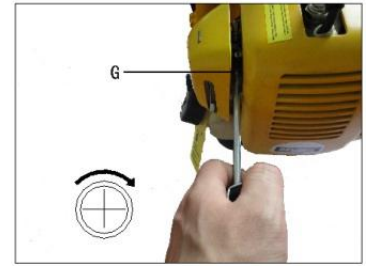

Fig.15
1. Locate the idle adjustment screw (G) on the carburetor (Fig.15).